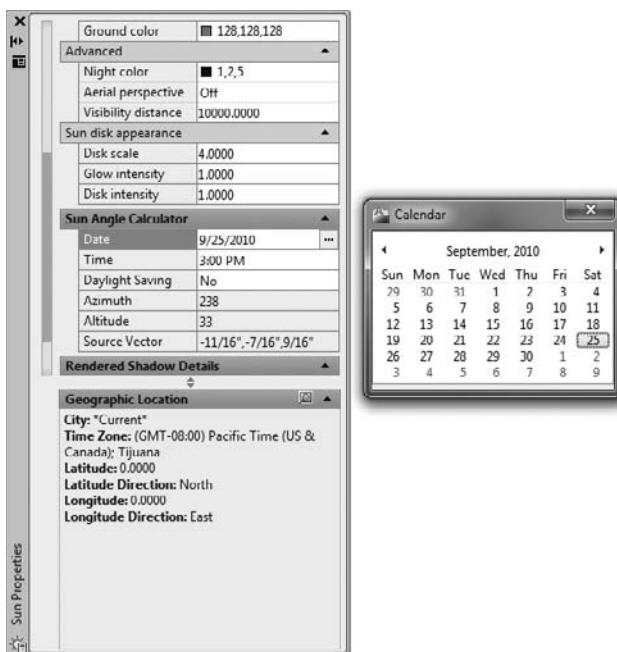

FIGURE 17.12 Set the date in the Sun Properties dialog box.
- 4.** Click the Sun Properties button at the right end of the Sun & Location panel to open the Sun Properties palette, as shown in Figure 17.12. (The palette may be docked on the side of the AutoCAD window.)
- 5.** In the Sun Angle Calculator rollout, set Date to 9/25/2010 and Time to 3:00 PM (see Figure 17.12).